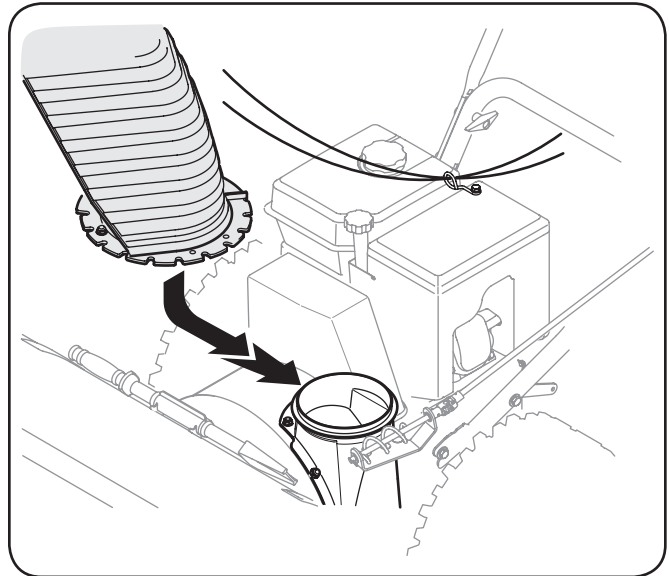

Figure 3-6
2. Place chute assembly onto chute base as shown in Fig. 3-6. Make sure that the chute notches engage with the spiral end of chute directional control, and the two flange keepers are beneath the flange on the chute base.
4. Check that the chute cables are properly routed through the cable guide attached to the lower handle assembly. See Figure 3-6.